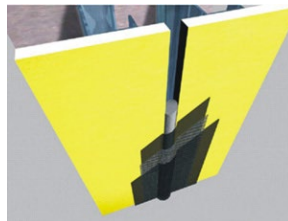

Fig. 15
3. Using a brush or 3/4 in (19 mm) nap roller, apply a liberal coat of AquaFlash Liquid material to the backer rod and adjacent substrate surface to the width of the AquaFlash Mesh - Figure 15.